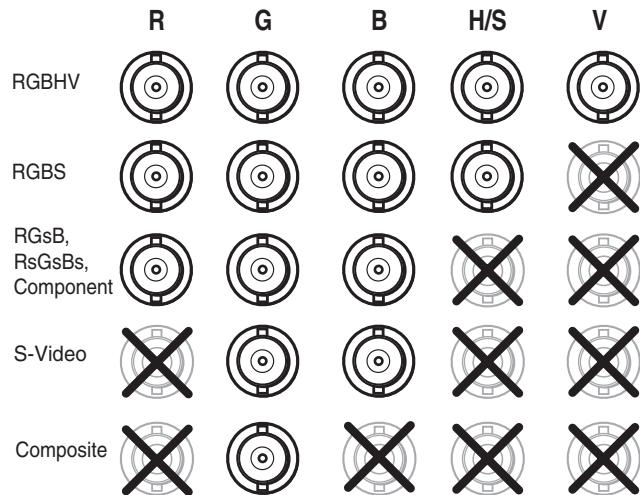

Figure 4—BNC connectors
- ① **Power connector** — Plug the external power supply cord into this connector.
- ② **Video output connectors** — Connect up to two RGBHV, RGBS, RGsB, RsGsBs, component video, S-video, high resolution monochrome video, or composite video output devices, such as data projectors or data monitors, to these female BNC connectors. See figure 4, *BNC connectors* for a connection diagram.
- ③ **Inputs/Loop-thru connectors** — Connect an RGBHV, RGBS, RGsB, RsGsBs, component video, S-video, high resolution monochrome video, or composite video device to these female BNC connectors. See figure 4, *BNC connectors* for a connection diagram.
- ④ **Gain controls** — Rotate to adjust the amount of amplification added to the individual red, green and blue video signals to compensate for long cable runs. The adjustment range is 0.7 (30% decrease) to 1.4 (40% increase).
- ⑤ Peaking control — Rotate to adjust the amount of high frequency boost added to the video signals to compensate for long cable runs.